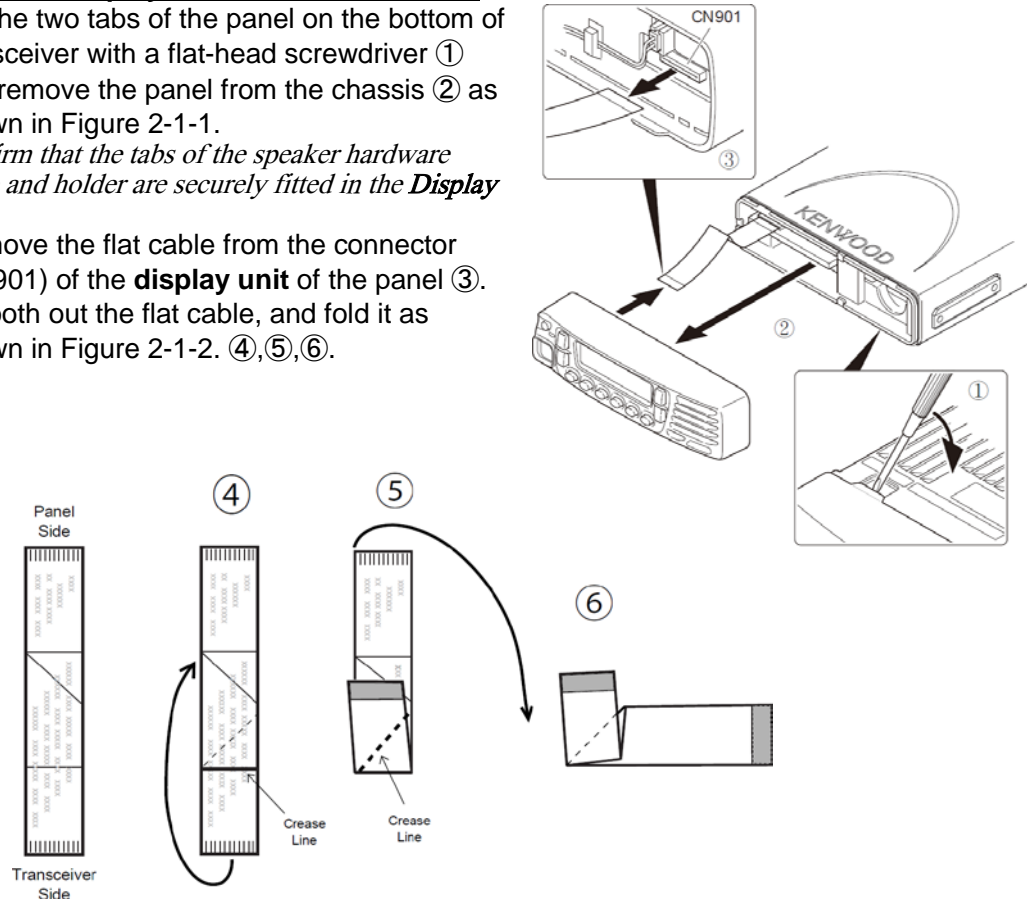

Fig. 2-1-2
Step 2: Remove the flat cable from the connector (CN901) of the **display unit** of the panel ③.
Step 3: Smooth out the flat cable, and fold it as shown in Figure 2-1-2. ④,⑤,⑥.